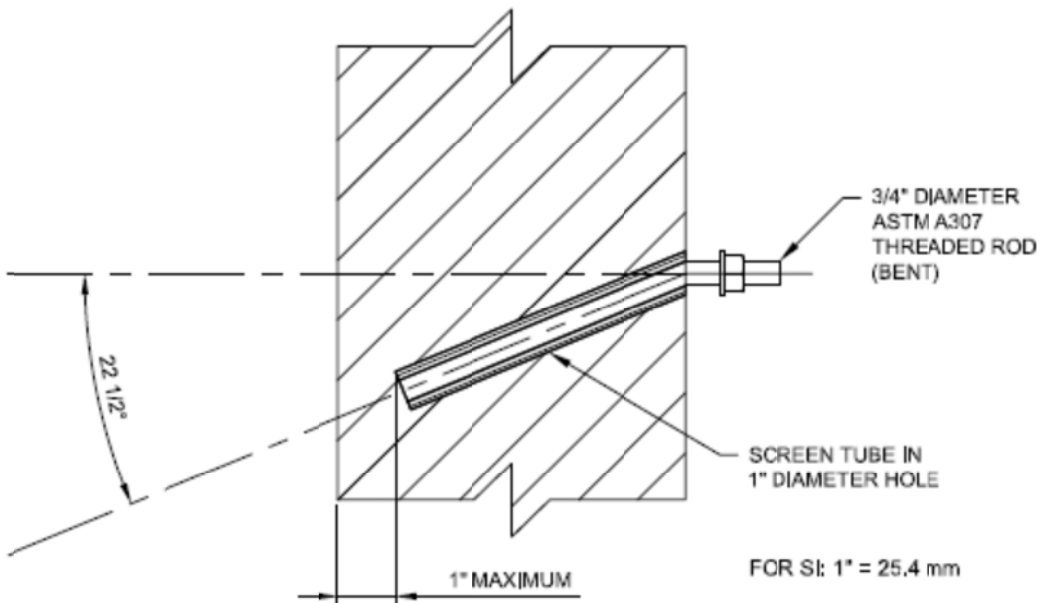

FIGURE 2—HILTI HIT-HY 70 ADHESIVE 221/2° COMBINATION ANCHOR (CONFIGURATION B)
**4.1.2 Configuration B, Bent Threaded Rods in Shear and Tension (221/2-degree Combination Anchor):** Configuration B is the anchor assembly resisting a combination of tension and shear loads. Configuration B consists of a 3/4-inch-diameter (19.1 mm), ASTM A307 threaded rod prebent at an angle of 221/2 degrees and a 1-inch-diameter-by-13-inch-long (26 mm by 325 mm) plastic-mesh screen tube obtained by combining 1-inch-diameter-by-8-inch-long (26 mm by 200 mm) and 1-inch-diameter-by-5-inch-long (26 mm by 125 mm) plastic-mesh screen tubes (HIT-SC 26x200 and HIT-SC 26x125). The anchor must be embedded a minimum of 13 inches (330 mm) at a downward angle of 221/2 degrees to the horizontal. Figure 2 shows details of an installed shear-and tension-resisting assembly.
**4.3.3 Configuration B:** Holes for installation of assemblies using prebent threaded rods intended to resist shear and tension must be drilled at a  $22\frac{1}{2}$ -degree angle to within 1 inch (25.4 mm) of the opposing surface. The holes must be cleaned with a wire brush and compressed air to remove debris. The Hilti HIT-HY 70 adhesive must be injected into the supplied plastic mesh screen tube that is then inserted into the predrilled hole. The prebent threaded rod must be inserted and pushed into the screen tube in a rotating manner to force the adhesive into the hole. Figure 2 illustrates an anchor installed in this configuration. Figure 3 illustrates the MPII, also referred to as IFU.
CONFIGURATION B – 22 $\frac{1}{2}$ ° COMBINATION ANCHOR (FIGURE 2)